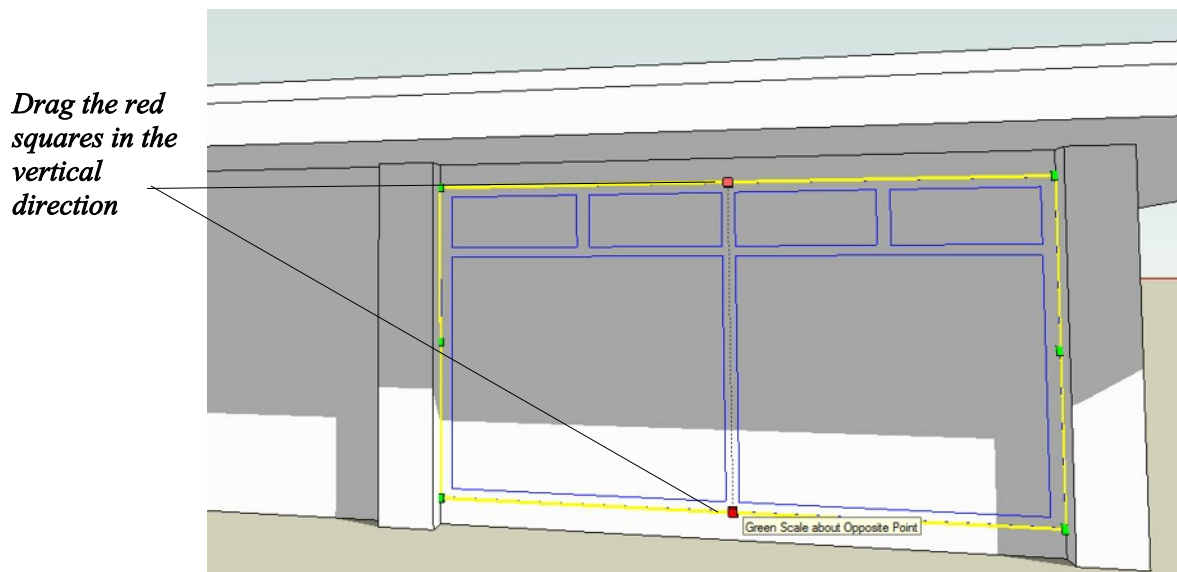

Figure 53. Scaling in the vertical direction
- Drag the red square until it locks onto the rear line of the left hand pillar as shown in Figure 53.
- Repeat again on the two central squares, but this time in the vertical direction to lock onto the horizontal overhang line and the ground line as shown in Figure 53.